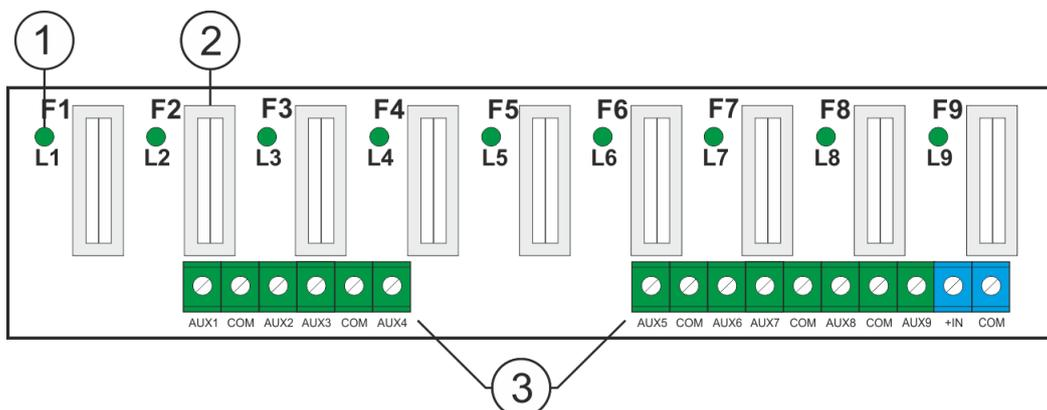

Fig. 2. The view of the fuse block LB9.
**Table 1. Elements and connectors of the fuse block (tab. 1, fig. 2).**
Element no. [fig. 2]	Description